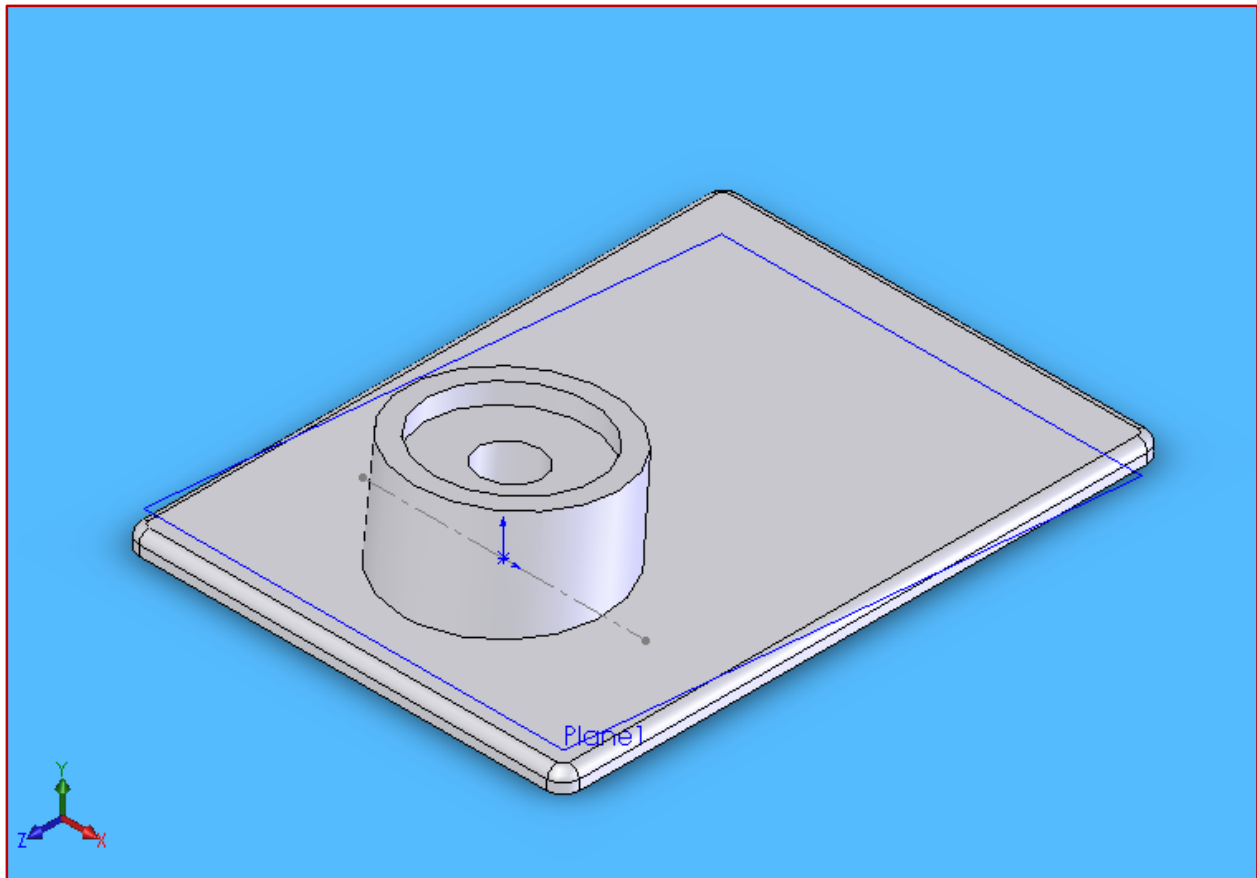

Figure 8.7 – Hole for Bolt
Step 65: Select the surface of the pocket and sketch a circle 3/8 inch in diameter with the center coincident with the origin, and click **Extruded Cut** using **Through All**. Remember to use **Smart Dimensions** to enter the diameter and add a collinear relation if needed. See Figure 8.7. This is for the kingpin that will attach the Truck Base to the Deck.